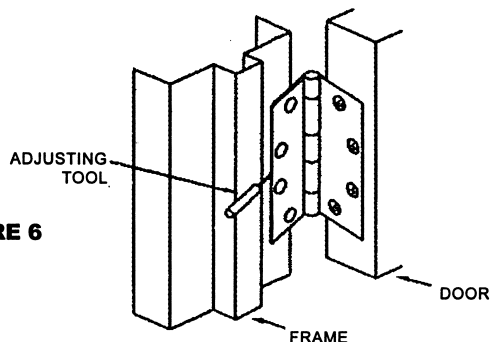

FIGURE 6
Adjustments to the monitoring gap are made by turning the adjusting screw until the adjusting tool included with the hinge. The adjustment screw is reached through the hole centered in the edge of the lead. See Figure 6.
To adjust the gap, open hinge, insert the adjusting tool and turn one (1) turn **clockwise** to **decrease** the gap or **counterclockwise** to **increase** the gap. Recheck gap with ohmmeter by slowly closing hinge. Repeat procedure until the desired gap is achieved. See Figure 6.